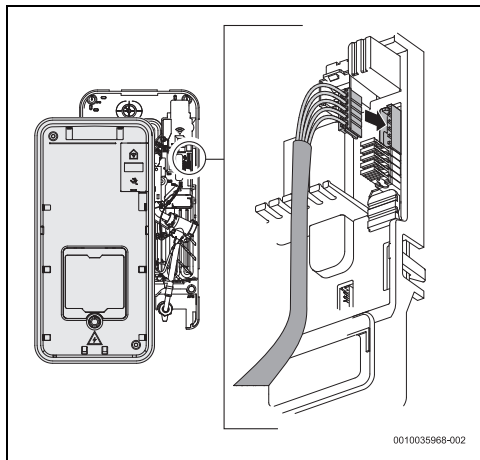

Fig. 50
- Check if the cable from the operating panel is correctly connected to the electronic board (→ Fig. 50).